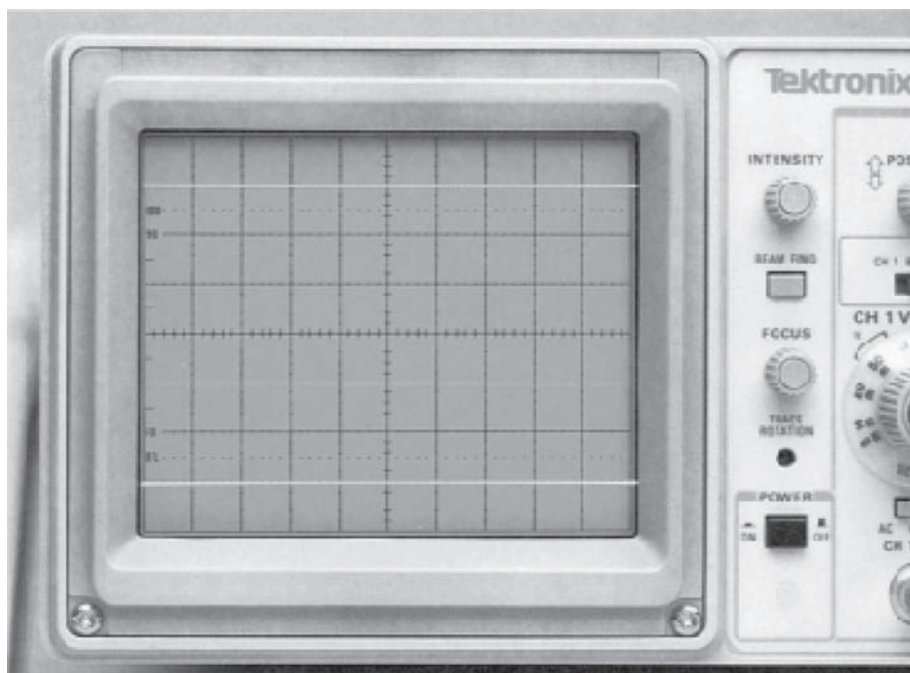

Figure 8-51 AC sine wave. (Courtesy of Tektronix Inc.)
Since the oscilloscope has the ability to measure the voltage with respect to time, it is possible to compute the frequency of the waveform. The frequency (F) of an AC wave form can be found by dividing 1 by the time (T) it takes to complete one cycle ($F = 1/T$). For example, assume the time base is set for 0.5 ms per division, and the voltage range is set for 20 V per division. If the oscilloscope has been set so that the center line of the display is 0 V, the AC wave form shown in *Figure 8-51* has a peak value of 55 V. The oscilloscope displays the peak or peak-to-peak
To measure the frequency, count the time it takes to complete one full cycle. A cycle is one complete waveform. Begin counting when the waveform starts to rise in the positive direction and stop when it again starts to rise in the positive direction. Since the time base is set for a value of 0.5 ms per division, the waveform shown in Figure 8-51 takes 4 ms to complete one full cycle. The frequency therefore is 250 Hz ($1/0.004 = 250$).